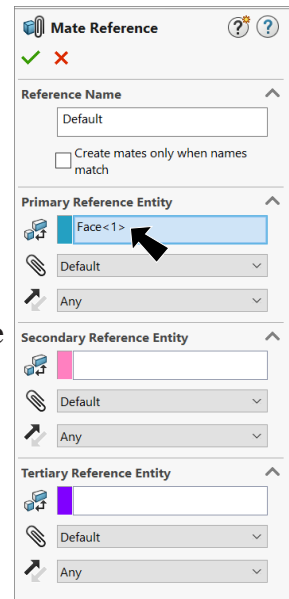

Fig. 6
Step 3. In the Mate Reference Property Manager click OK  , Fig. 6.